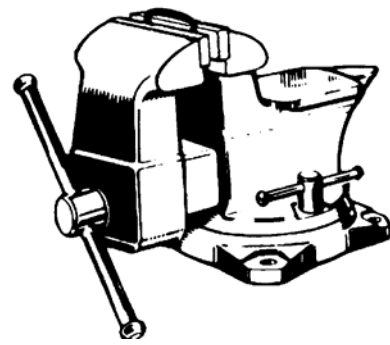

Figure 6
1. Insert one link lengthwise into the vise (Figure 6). Be sure that the side opposite the weld lies completely below the surface of the vise jaw (about 1/3 of a link). This prevents nicking or cutting the lower part of the link.